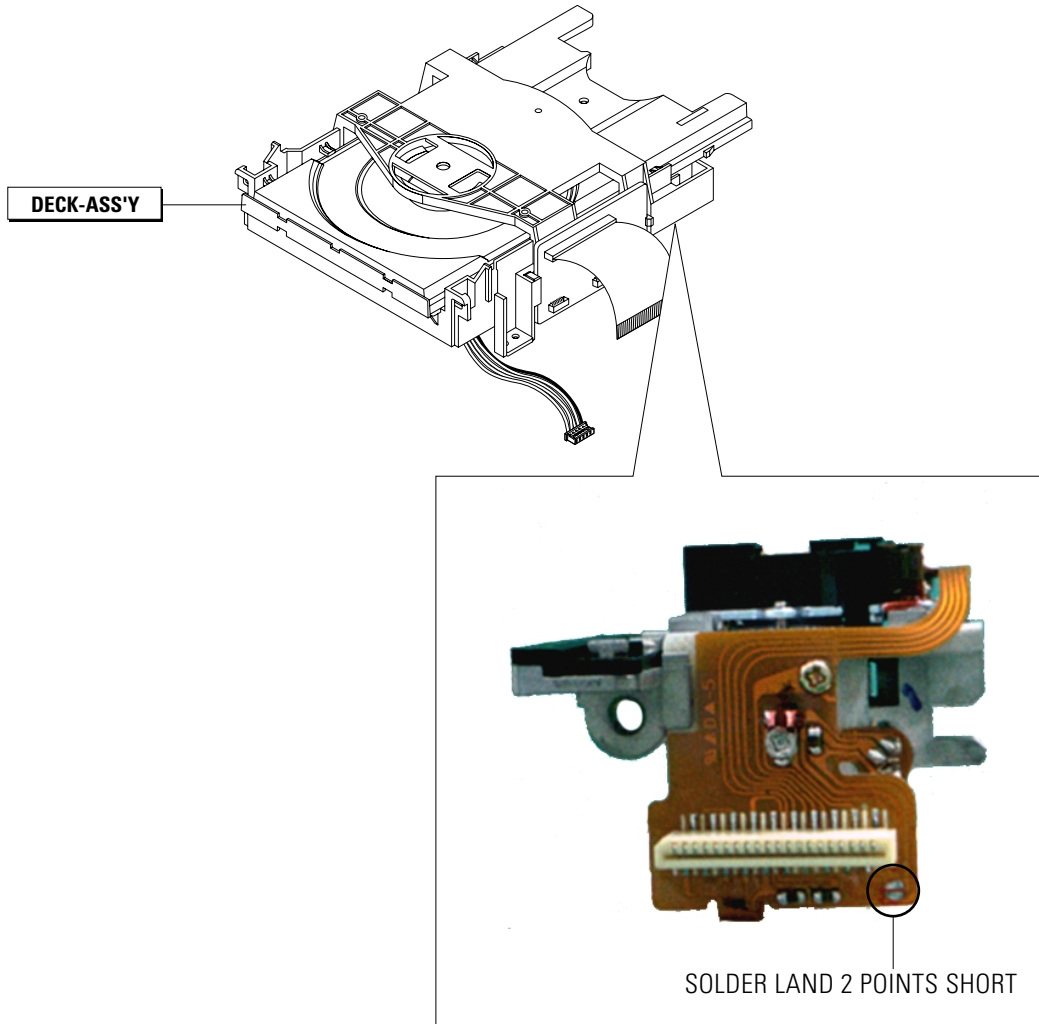

Fig. 1-4
- 3) Solder land 2 points short on Pick-up. (See Fig. 1-4)